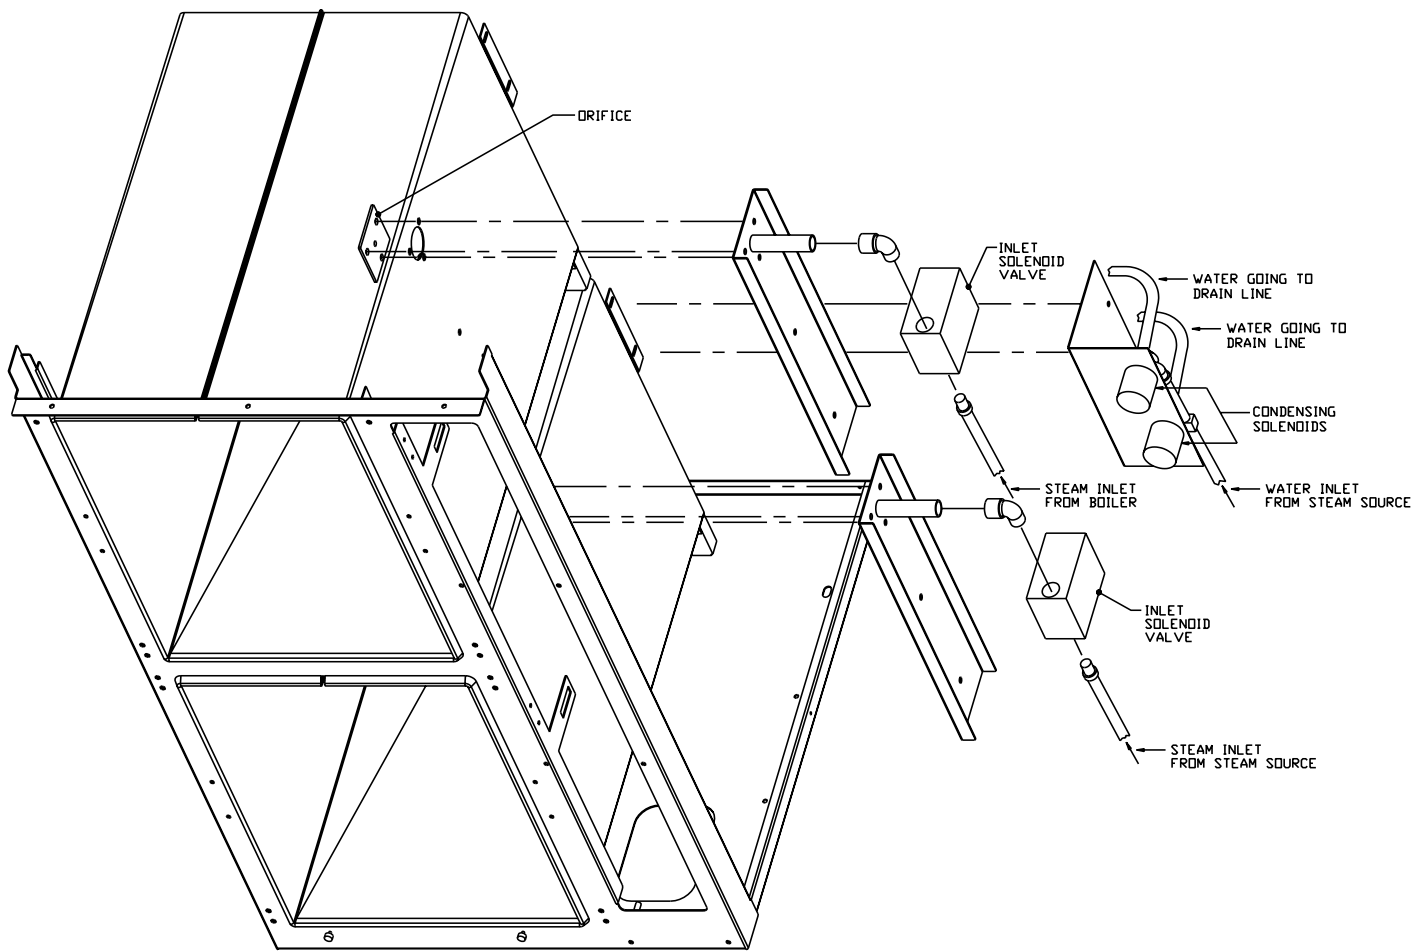

Fig. 2 Pictorial Diagram, Steam and Water Circuits
these circuits is shown in Fig. 2 on page 5.
**NOTE:** Fig. 2 is strictly a pictorial schematic diagram and is not intended to show the actual configuration of the plumbing. All components are shown in correct relationship with each other. However, the diagram does not show their actual locations or position within the cooker.
2. Disconnect all five wires from timer terminals. (see Fig. 2, page 11).
7. Remove ohmmeter and replace all five leads on timer terminals as shown in Fig. 2 on page 11.
2. Disconnect wires to the door switch terminals (see Fig. 2, page 11).